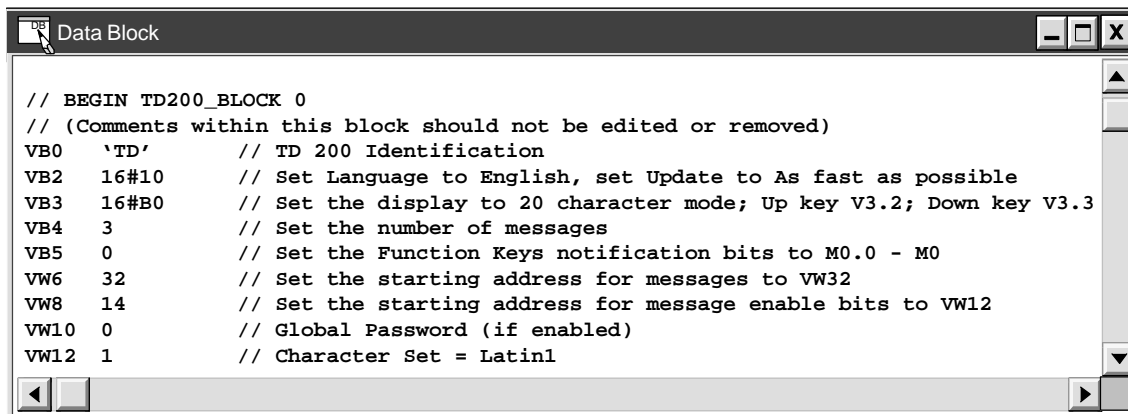

Figure E-2 Data Block Showing a Sample TD 200 Configuration
1. Select the menu command **View > Data Block**. The Data Block dialog box appears (Figure E-2).
In the steps below, the locations for changes are specified as byte offsets from the beginning of the configuration. The beginning address for the configuration is the address where the value “TD” appears. In Figure E-2 the line of code “VB0 ‘TD’” indicates that the TD 200 configuration address begins at VB0. To determine where to make changes, you must add the offsets specified in the steps below to the starting address for your configuration.
For example, line VB2 in Figure E-2 is 16#10. The “1” sets the language to English. To change the language to Chinese, change the line to read “VB2 16#60”.
3. Offset of 3 bytes: To direct the TD 200 to use an alternate character set, you must set the most significant bit of this byte. You can use a hex calculator to add hex 80 to the current value in this location. To enable an alternate character set, modify the line in Figure E-2 to set VB3 to 16#B0.
4. Offset of 8 bytes: Ensure that the value specifying the starting address for the message enable bits is at least 14 bytes greater than the beginning address for the configuration. In Figure E-2, VW8 should be 14 bytes greater than VB0. If you used the default value of 12 suggested by a previous TD 200 Wizard ("VW8 12"), you should change this value to "VW8 14".
5. Offset of 10 bytes: Ensure that there is a placeholder for the password. If there is a password entry, you do not need to do anything. If there is no entry at this offset, enter a 0 as a placeholder. In Figure E-2, "VW10 0" shows that a "0" was entered as a placeholder.
6. Offset of 12 bytes: Specify the character set for user messages. Refer to Table E-2 to determine what value to enter. In Figure E-2, "VW12 1" indicates that the TD 200 configuration will use the Latin 1 character set for user messages.